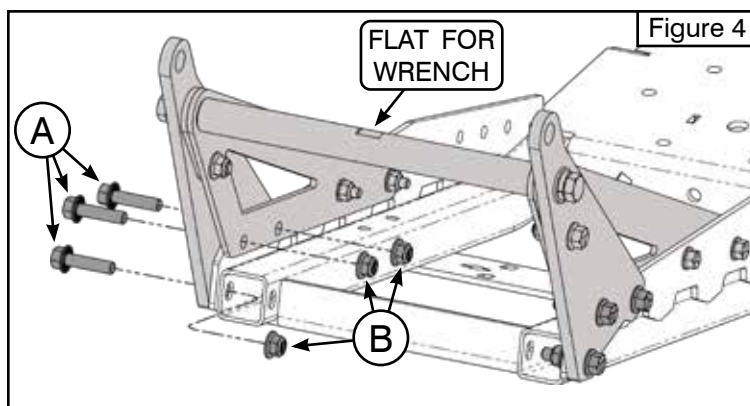

Figure 4
5. Reinstall bolts (A) and nuts (B) removed in **Step 1** into their original positions. See **Figure 4**.